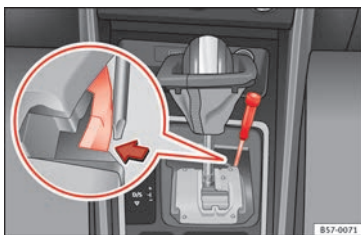

Fig. 58 Selector lever: manual release from position P.
- Using a screwdriver, press and hold the yellow unlocking tab sideways » » **Fig. 58**.